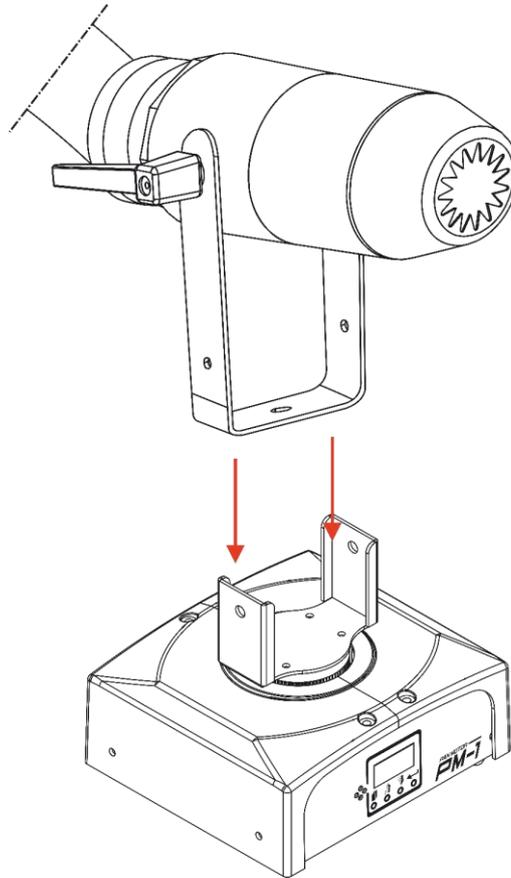

Fig. 03
01) Put the output nozzle of the S-500 Snow Machine in the installation bracket (01) of the PM-1 (Fig. 03).